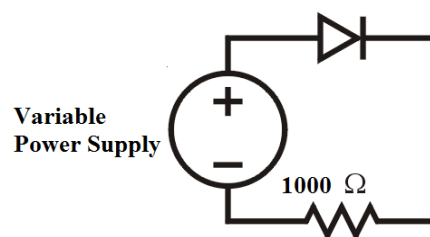

Figure 2.1: Diode Circuit.
1. Connect the circuit as shown in figure 2.1.